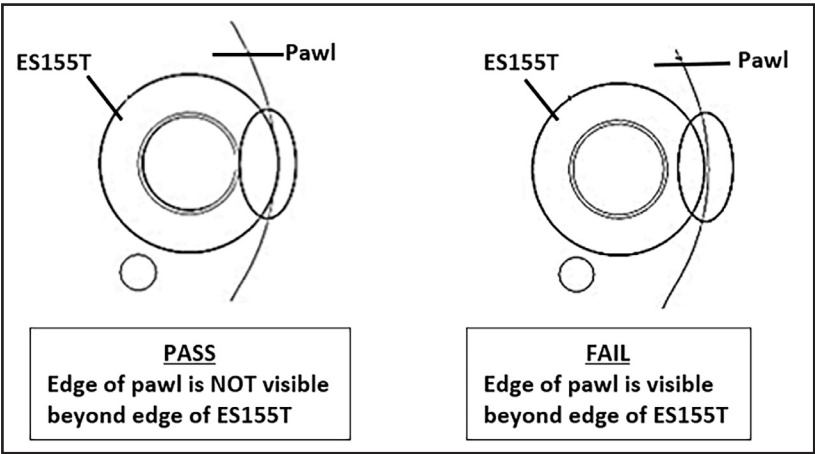

Figure 4.3 – Correct Pawl Visual
- 4) If the edge radius of the pawl extends beyond the edge of the ES155T Pawl Wear Go/No Go Gauge, then the impulse assembly is worn and must be replaced and discarded. Reference Figure 4.3.